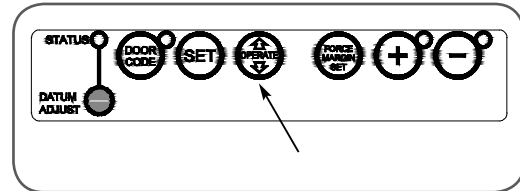

fig 10
1. Press button 4 to start closing the door. If the door starts to open - press the Operate button (**Fig. 10**) within two (2) seconds. Press button 4 again - the door should now close. Release the button once you are 1 to 2cm from your desired closed limit position.
1. Press and hold the Minus button (**Fig. 10**) for six (6) seconds until you hear three beeps and the red Close Limit LED starts to flash. Release the button.